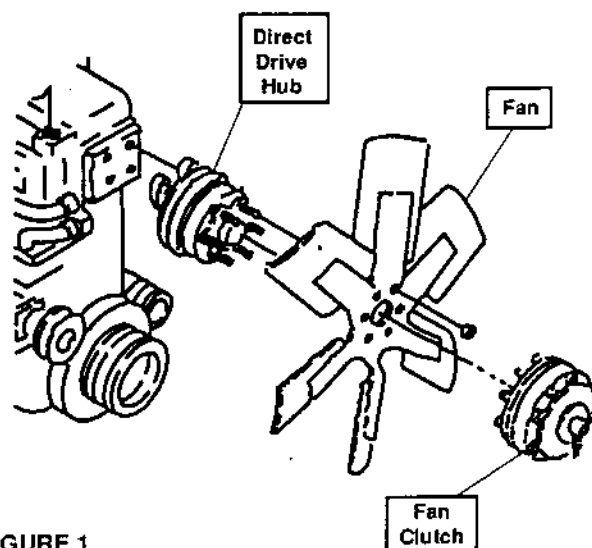

FIGURE 1
- F. Mount fan or clutch onto Direct Drive Hub (See Fig. 1).